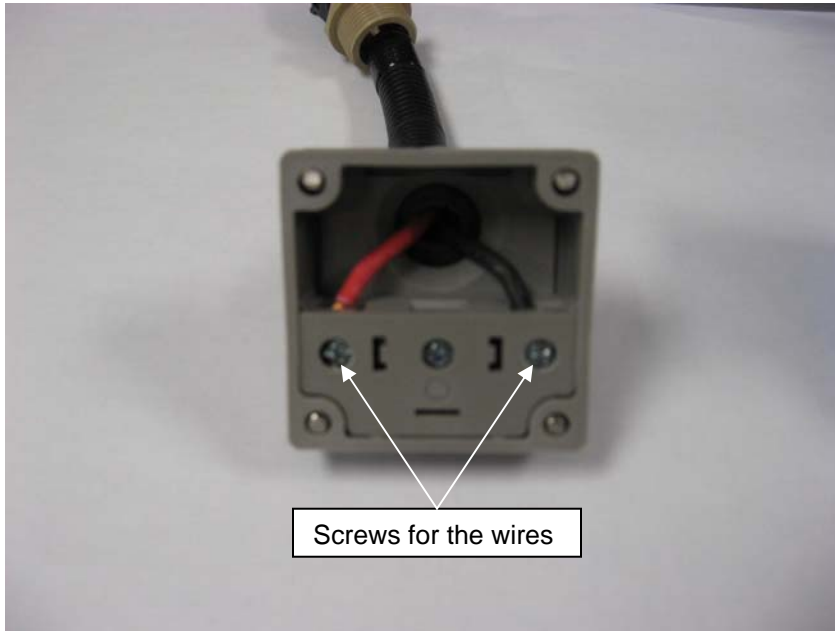

Figure 8
3. Ensure wires are properly inserted into position and use screwdriver to firmly tighten the wires in place. (see figure 8)